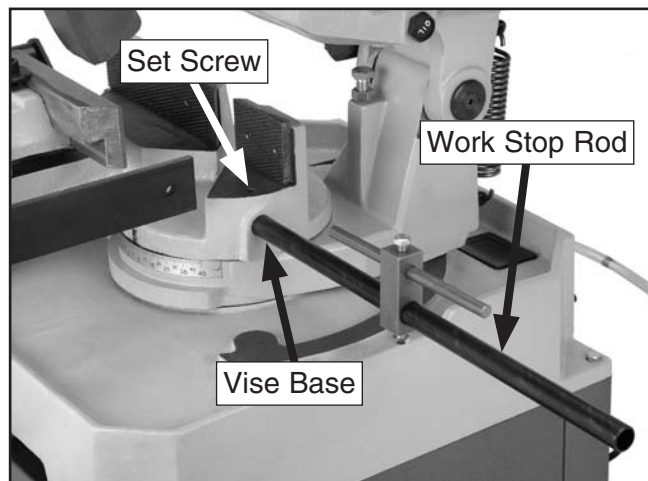

Figure 17. Work stop rod.
8. Attach the work stop rod by sliding it into the hole in the side of the vise base and using the set screw to secure it in place, as shown in **Figure 17**.